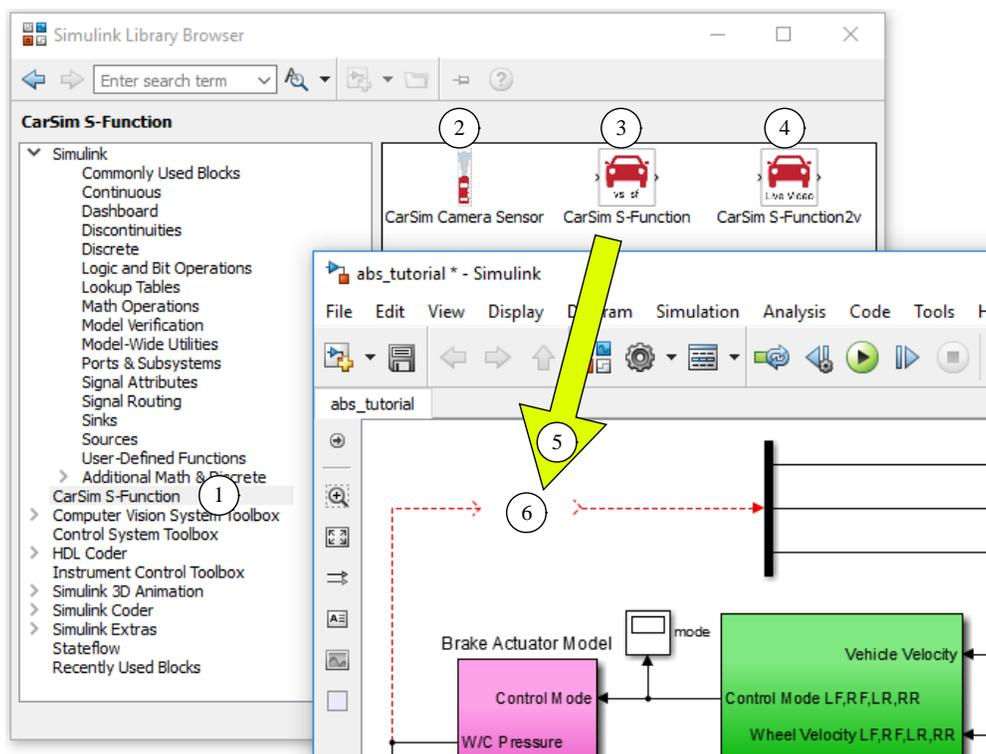

Figure 16. Drag and drop a VS S-Function block from the Simulink Library Browser.
8. Open the Simulink Library Browser (see the Simulink **View** menu). Depending on your products, there will be a CarSim, TruckSim, or BikeSim category (Figure 16). Locate the VS S-Function category (e.g., CarSim S-Function ①) and click it to view the S-Function blocks ②, ③, and ④.